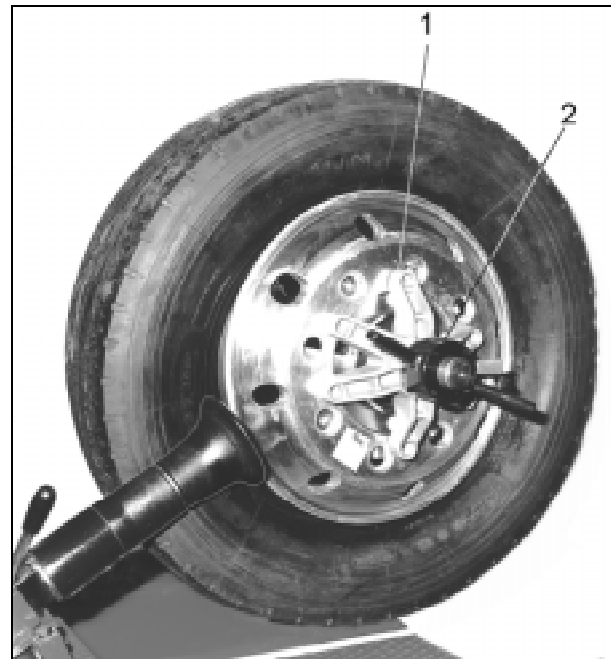

Fig.17
- C.** Lock the rim with the wing nut (#2 Fig.17) and the star flange (#1 Fig.17) so that the drive pin is engaged into a bolt hole of the rim.